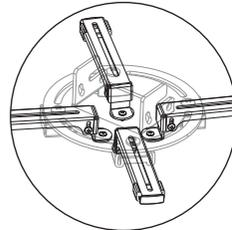

figure 13
3. Connect the installation arms to the projector conversely if the distance of installation holes is less than 120mm. Connect the installation arms (4-2) to the installation base (4-5) via sliding installation button (4-4) as figure 13